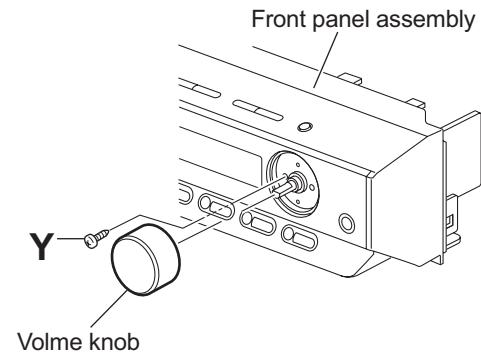

Fig.16
- (1) From the front side of the front panel assembly, pull out the volume knob. (See Fig.16.)
- (2) Remove the screw **Y** attaching the front board. (See Fig.16.)